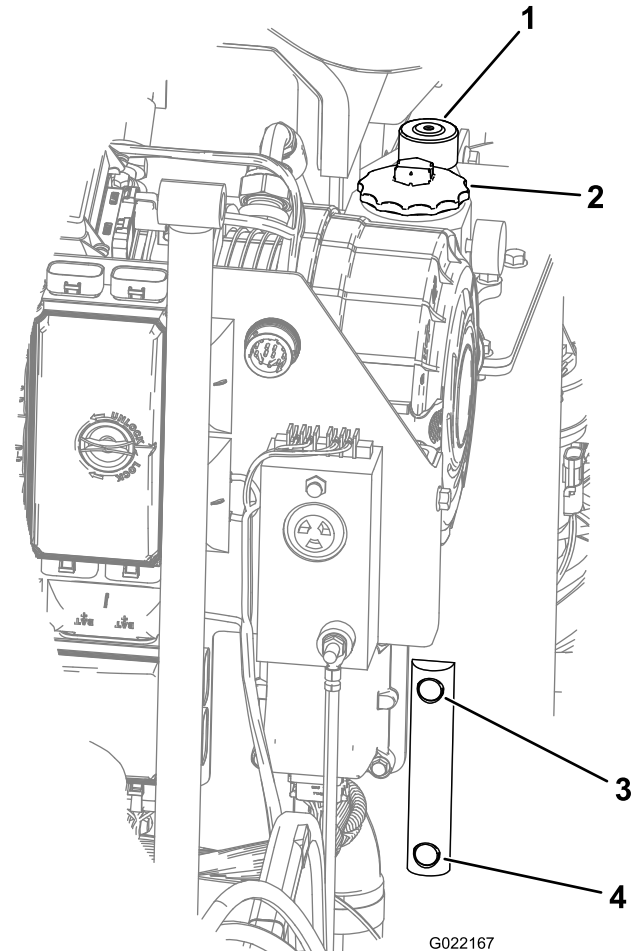

Figure 146
3. Look at the sight gauge on the hydraulic tank and check the level of the oil (Figure 146).
4. If the level is low, open the hydraulic-tank cap, and add the appropriate fluid until it reaches Full on the sight gauge (Figure 146).